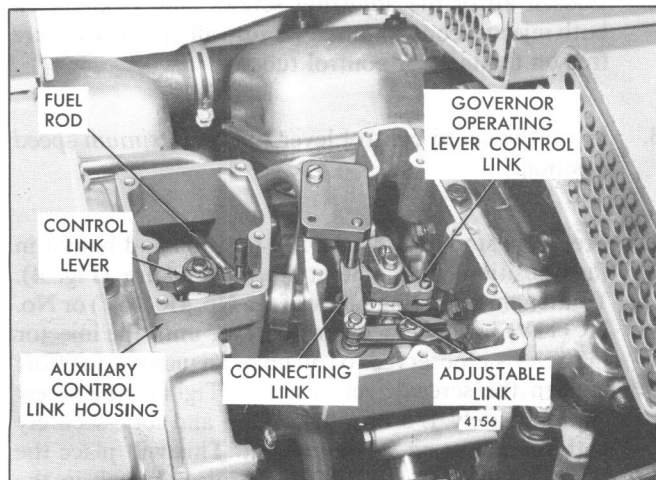

Fig. 2 - Positioning Control Link Levers
If the engine or governor has been overhauled, or the injector control linkage has been disturbed, the control link levers in the governor housing and auxiliary control link housing must be aligned before proceeding with the engine tune-up. Refer to Fig. 2 and position the control link levers as follows:
6. Remove the connecting pin from the control link lever in the governor housing and install gage J 21780. Install the gage so the pin extends through the connecting link, control lever, and fuel rod; and the governor housing dowel pin extends into the small hole in the gage. Then install a governor cover bolt to lock the gage in place (Fig. 2). With gage J 21780 in place, the governor control link lever will be in the *mid-travel* position and parallel to the auxiliary control link lever.